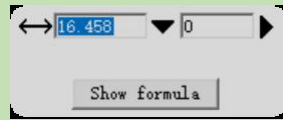

Figure4-19
3. Enter data (as shown in Figure 4-19).